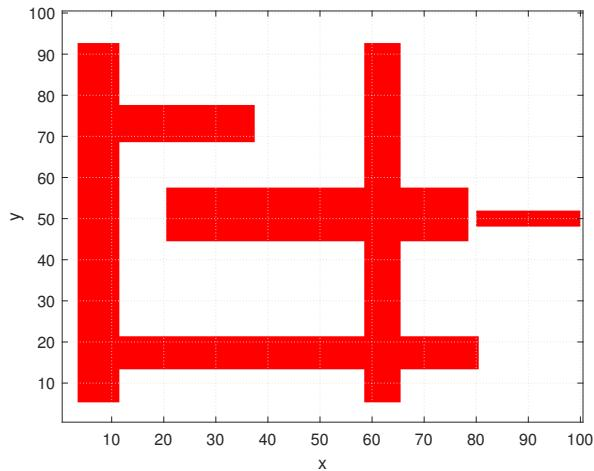

Figure 3: Map of the area with door.
- Assume that the door will block the path for 5 sec, generate new path which pass the door with correct timing. The door location is shown in Figure 3. You can access the map by running "Task2/run.m" and changing the value of "obstacle" to 1.